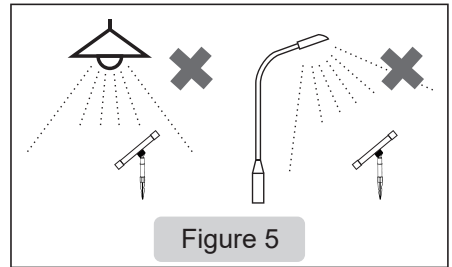

Figure 5
- 4) The solar panel is used as a photosensor to automatically start the system operation twice a day. To avoid misoperation, the solar panel should not be exposed to any other light source except sun light (referring to **Figure 5**).